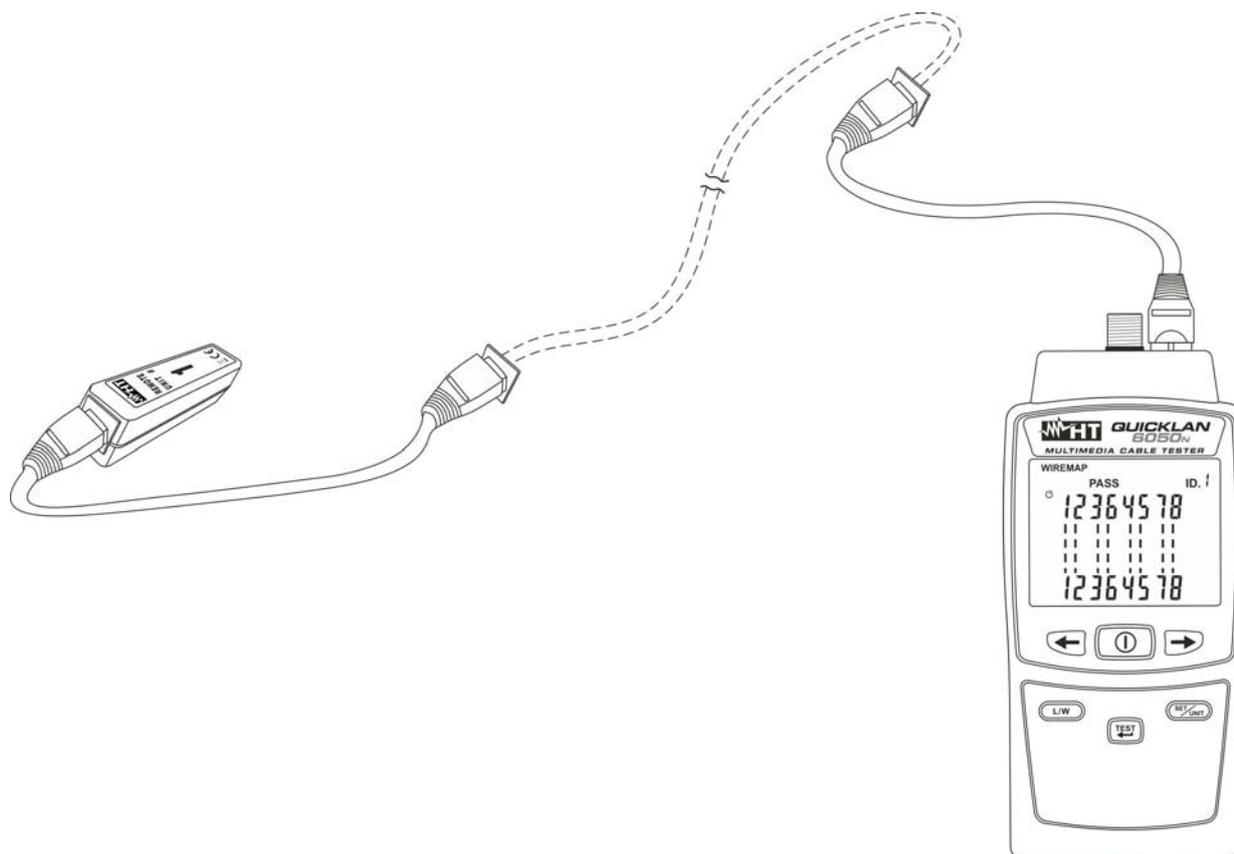
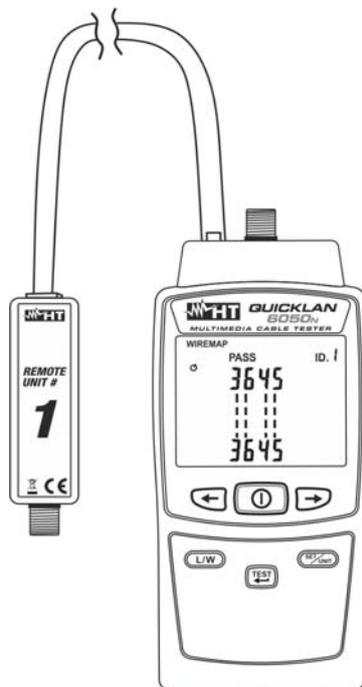

Fig. 7: Instrument connection through patch cables
Fig. 10: Connection of the instrument to cable with RJ11 connector
4. Connect the ends of the cable to be tested to the instrument's input RJ45 connector (see Fig. 1 – part 10) and to the remote unit #1 or, if necessary, use the patch cables provided as shown in Fig. 7.
1. Switch on the instrument by pressing the key. ①
3. Connect the ends of the cable to be tested to the instrument's input RJ11 connector (see Fig. 1 – part 8) and to the remote unit #1 (see Fig. 10). if necessary, use the patch cables provided as shown in Fig. 7.